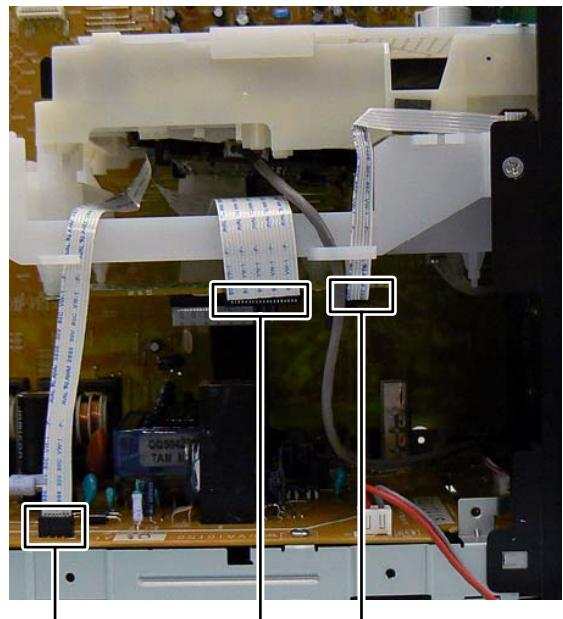

Fig.7
3.1.5 Removing the CD mechanism (See Fig.7 to 9)
- (1) Disconnect the card wire from CD mechanism connected to connector CN360 and CN362 of the Connection board. (See Fig.7)
- (2) Disconnect the card wire from CD mechanism connected to connector CN205 of the Power board. (See Fig.7)